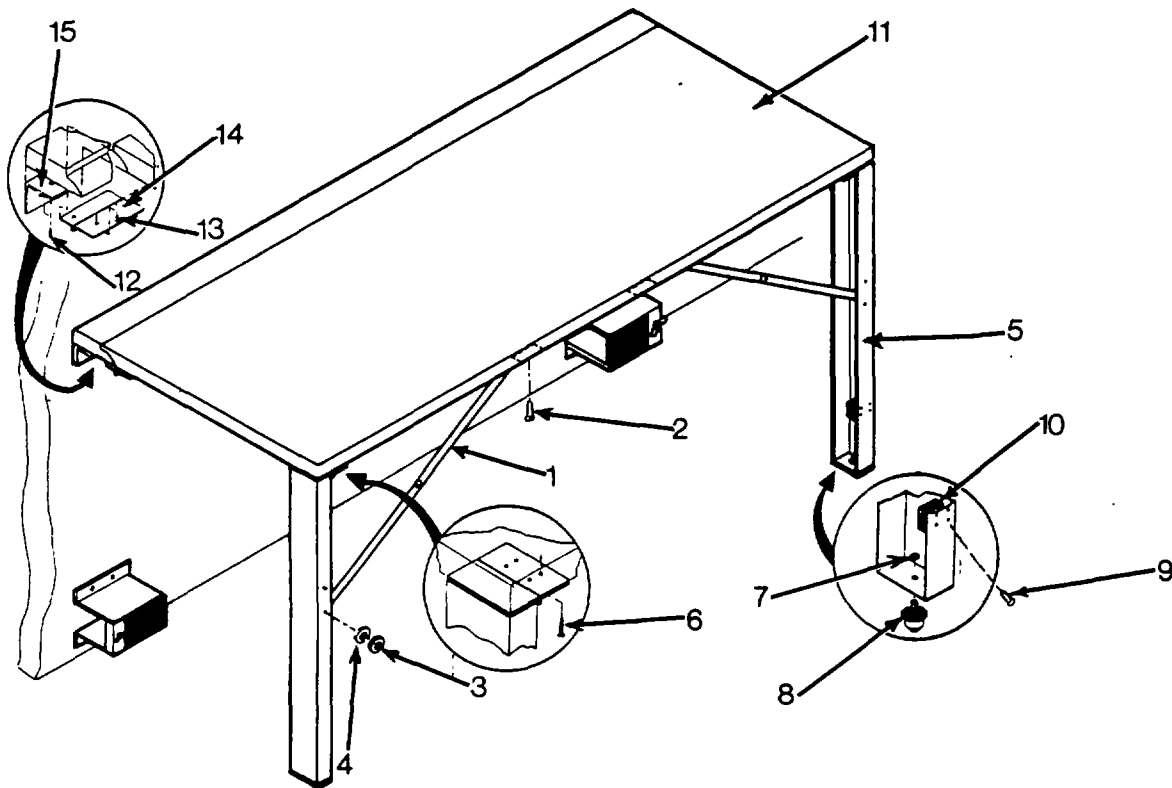

Figure 4-17. Folding Table
- a. Replace storage cabinet by removing mounting bolts (1) remove storage cabinet (2).
- b. Align storage cabinet (2) with holes in wall and secure with mounting bolts (1).
4-21. FOLDING TABLE. Refer to figure 4-17 for location of components and hardware of the folding table (1).